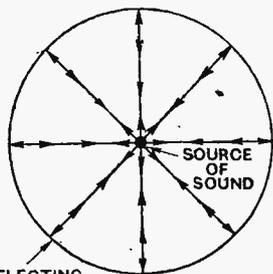

Fig. 1.—Representing a spherical room.
**I**N studying the science of sound, no aspect is perhaps more fascinating or interesting than the acoustic properties of rooms. Very small rooms naturally do not lend themselves so readily for experiments in this science, as a variation in the behaviour of sound in any two rooms of about the same size would be in most cases so minute that they would not serve for practical purposes. With rooms of fairly large dimensions, however, it is quite a different matter, and often a very little difference in the construction, size, shape, or material will make a considerable difference in the acoustic properties. For the better consideration of this subject, it will be as well first of all to get our minds clear on the questions of echo, reverberation, and resonance. Let us, therefore, imagine that we are in the exact centre of a perfectly spherical room, occupying a point of space only, the surrounding wall completely enclosing us. Fig. 1 may help to give the idea.